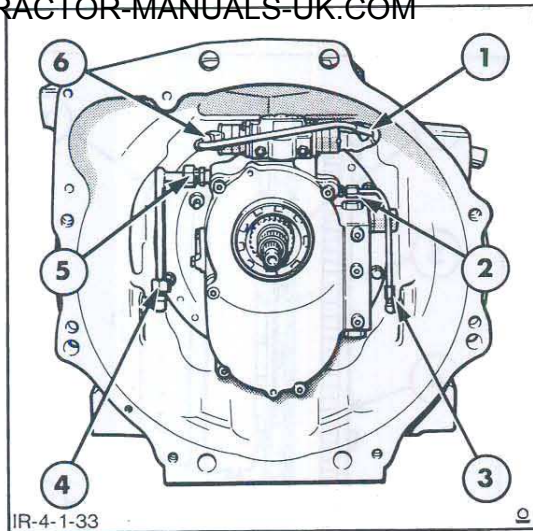

Figure 34
1. Disconnect the oil cooler return pipe and elbow at the transmission case, Figure 34. Disconnect the return pipe at the oil distributor housing and remove the pipe from the transmission case.
2. Disconnect the pressure test port feed pipe and elbow at the transmission case. Disconnect the feed pipe at the oil distributor housing and remove the pipe from the transmission case, Figure 34.